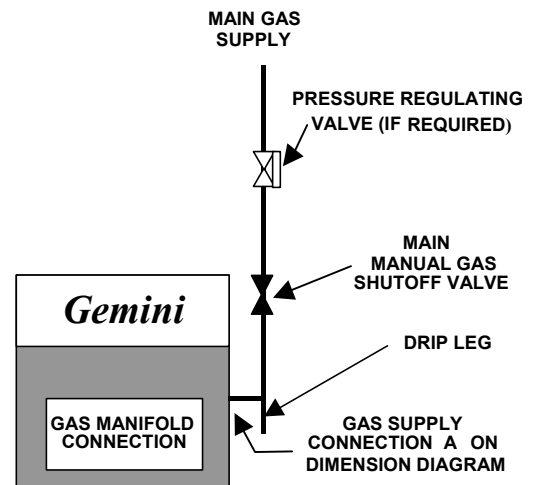

Figure 2-5, Recommended Gas Supply Line Layout
- 3). Refer to Figure 2-5 for the recommended layout of the gas supply lines. Refer to Figure 2-1 or 2-2 depending on which model you have, Detail **A** for the location of the ¾ inch gas inlet of the steamer.
- 4). Install a manual shut off valve between the gas supply and the steamer. See Figure 2-5. From now on this valve will be referred to as the Main Manual gas valve.
- 5). It is recommended that a sediment trap (drip leg) be installed in the gas supply line. See Figure 2-5.